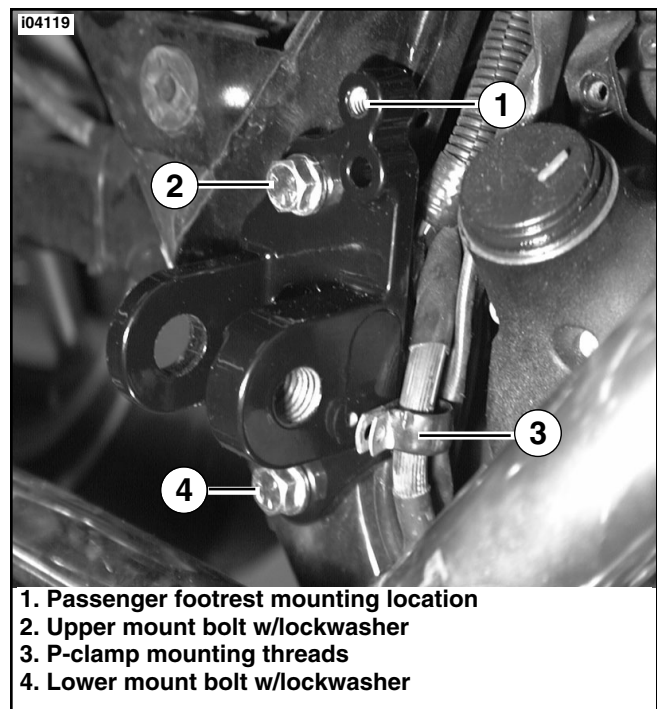

Figure 14. Install Rear Mount and Hardware
6. Refer to Figure 14. Install upper and lower rear mount bolts w/lockwashers (removed in last step) to secure rear mount to frame. Tighten bolts to 34-42 ft-lbs (46-57 Nm).
8. Obtain Screw with P-clamp (20) removed in Step 2. Secure brake line to mount at threaded position shown. Tighten screw securely.